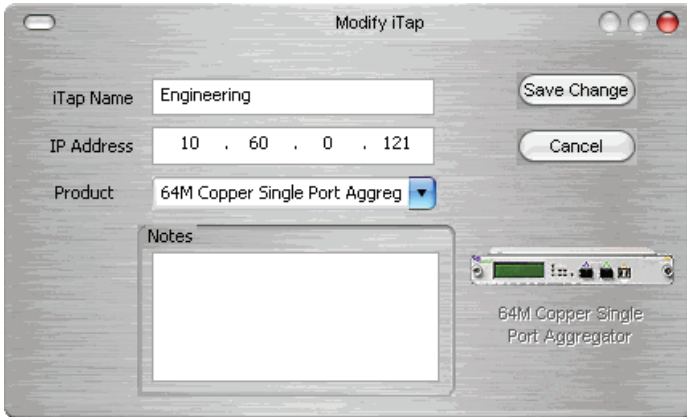

Figure 36: Modify iTap
2. Click **Modify** in the toolbar. The Modify iTap dialog box appears as shown in Figure 36.